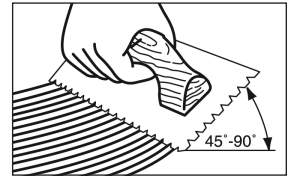

Figure 15
- Hold trowel at a minimum 45° angle (Figure 15) firmly against the subfloor to obtain proper spread rate per gallon.